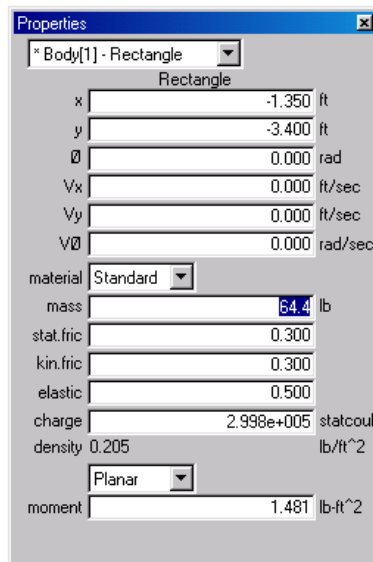

Figure 4
6. Double-click on the vertical link to get the properties window. Change the weight of the link to 64.4 lb as shown in Figure 4. Notice that you can specify the mass moment of the bar too.